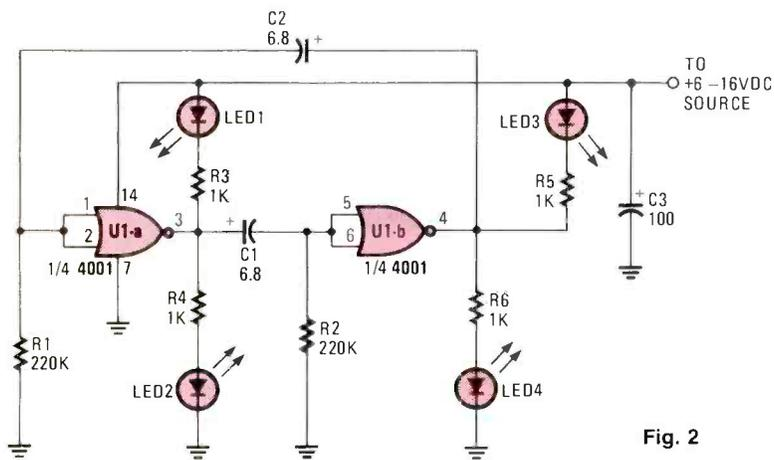

Fig. 2
**PARTS LIST FOR THE LED FLASHER (FIG. 2)**
expense. Our first flasher circuit (see Fig. 2) uses a low-cost CMOS IC to turn the four LED's on and off at a rate that is set by the values of R1, R2, C1, and C2. The pulse rate for the component values given (for R1 and R2) is about one cycle every four seconds. By lowering the values of R1 and R2 to 220K, the pulse rate increases to 1 Hz.